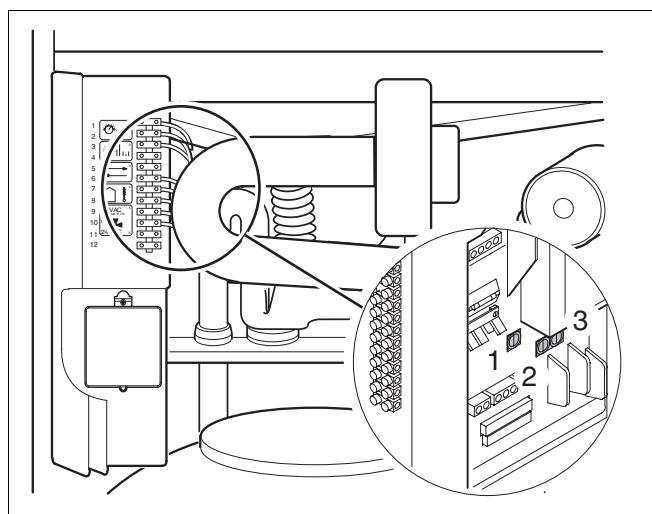

fig. 55 Checking the fuses
- Check fuse for throughput or carry out visual inspection (fig. 55, items 1, 2 and 3). If defective, fit new fuse (1.25 AT).